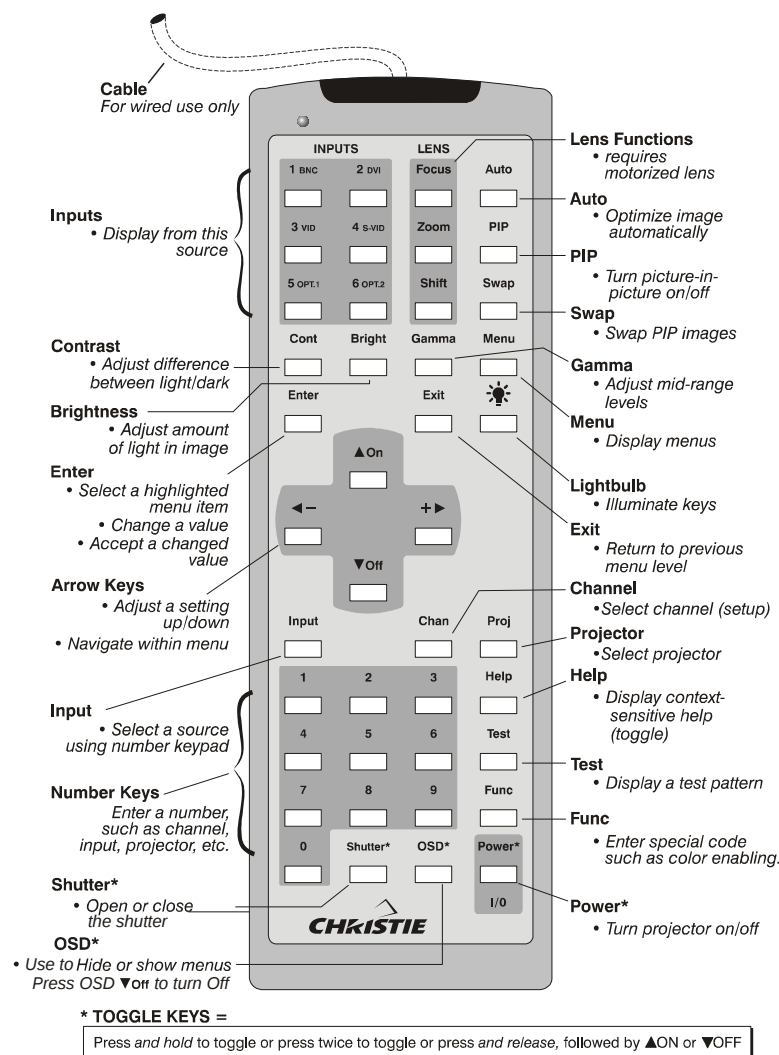

Figure 3-4 Standard IR Remote
The “Brick” style rental staging/standard IR remote, typically used with Roadster models, is shown in Figure 3-4. It has no laser pointer, but includes 3 additional keys:
The "Brick" style rental staging - Standard IR Remote, typically used with Roadster models, is shown in Figure 3-4. It has no laser pointer, but includes three additional keys: the SWAP key for use with PIP functions, BACKLIGHT key for lighting keys, and direct INPUT key used with the numbered keypad to switch from one input to another.
**NOTE:** Three keys: POWER, SHUTTER, and OSD. Press key once. Refer to Figure 3-4.